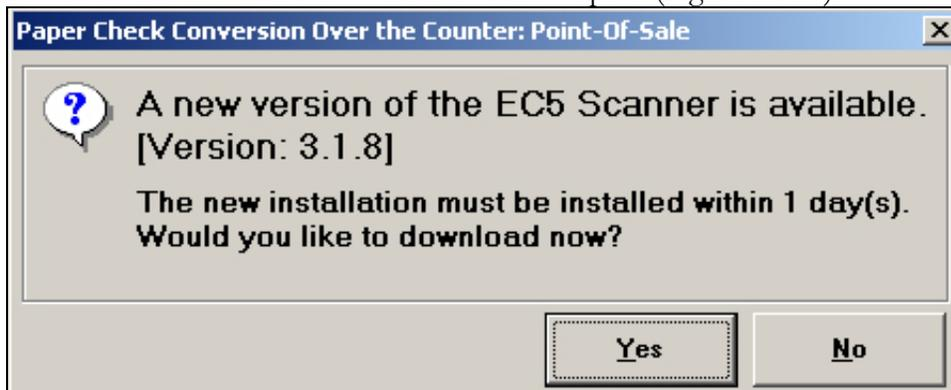

Figure 6.10.8
2. Click 'Close'. The New Version window opens (Figure 6.10.8).